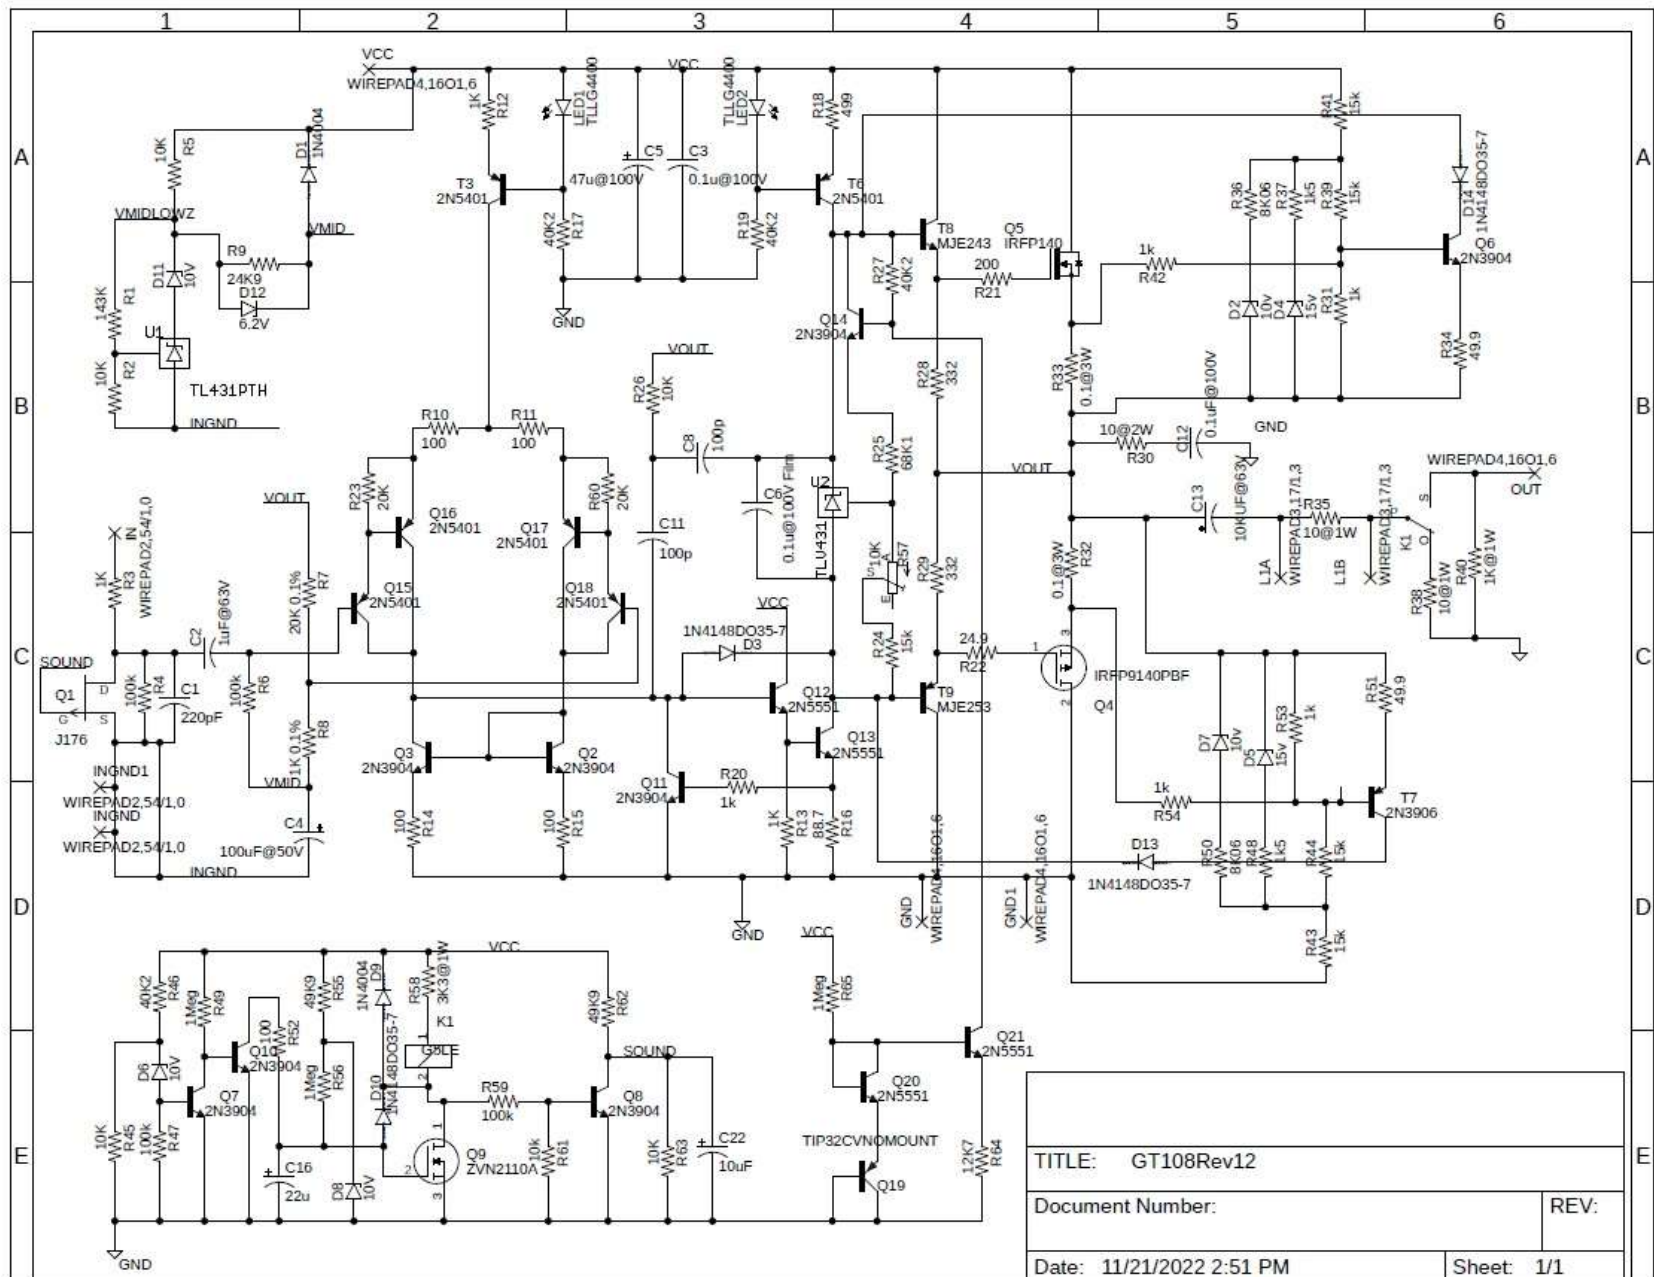

Figure 49-Amplifier Module Schematic
2. After about 7-10 seconds, you should hear the click of the speaker relays. If this is successful, then perform the following additional steps. If the timing is way off, then double check the relay driver associated components for both value and polarity (diodes and transistors). They can be found at the lower left corner of the schematic, Figure 49.
This discussion refers to Figure 49.